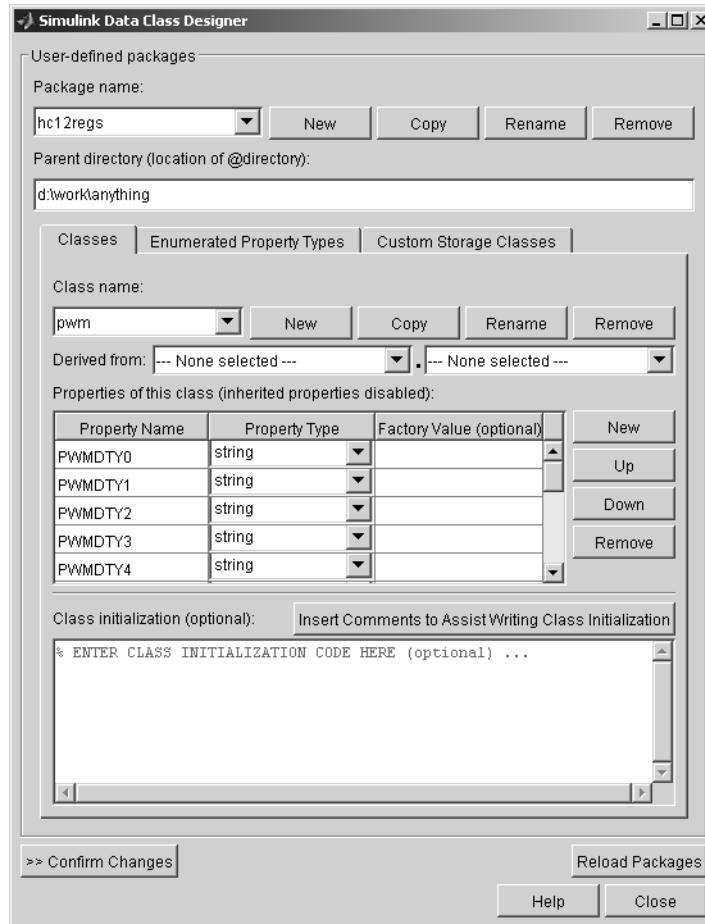

Figure 6-2: hc12regs Package and pwm Class Visible in Simulink Data Class Designer
- 6** Your copy (in the /mykeywords directory) of the hc12regs package should now be visible to the Simulink **Data Class Designer**. Verify that the hc12regs appears in the **Package name** field of the Simulink **Data Class Designer**, as shown in Figure 6-2.